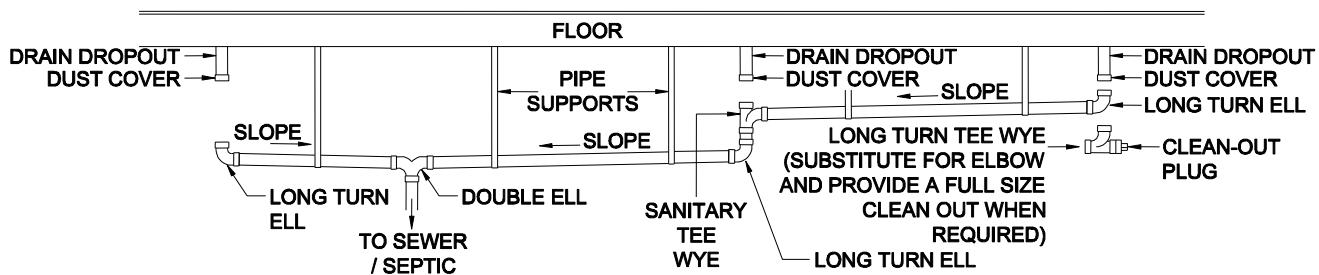

Figure 47. DWV system
2. **Assemble pipes.** Using the drain schematic drawing provided with the home, begin assembling the DWV system starting at the location farthest from the sewer/septic connection and working towards the outlet, fastening the pipe with cement or adjustable screw-clamp connectors, if provided (Figure 46). As the system is assembled, support the piping with temporary blocking. Unless otherwise noted on the schematic diagram, provide a minimum 1/4 inch per foot slope towards the sewer/septic using a plumber's level. Where a slope of 1/4 inch per foot cannot be maintained, use a minimum slope of 1/8 inch per foot and install of a full-size clean-out at the uppermost point of the run (Figure 47).